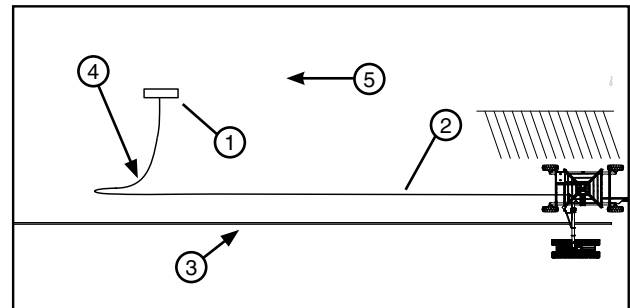

Figure 71-1 1. Power Pedestal
- (b) Position the electric cord far enough away from the hose, so that the hose will not drag over it. To prevent interference between the electric cord, cart tires and hose, bury the electric cord in the area where interference will occur or when applicable, position the electric cord over the top of hose. See Figure 71-1.